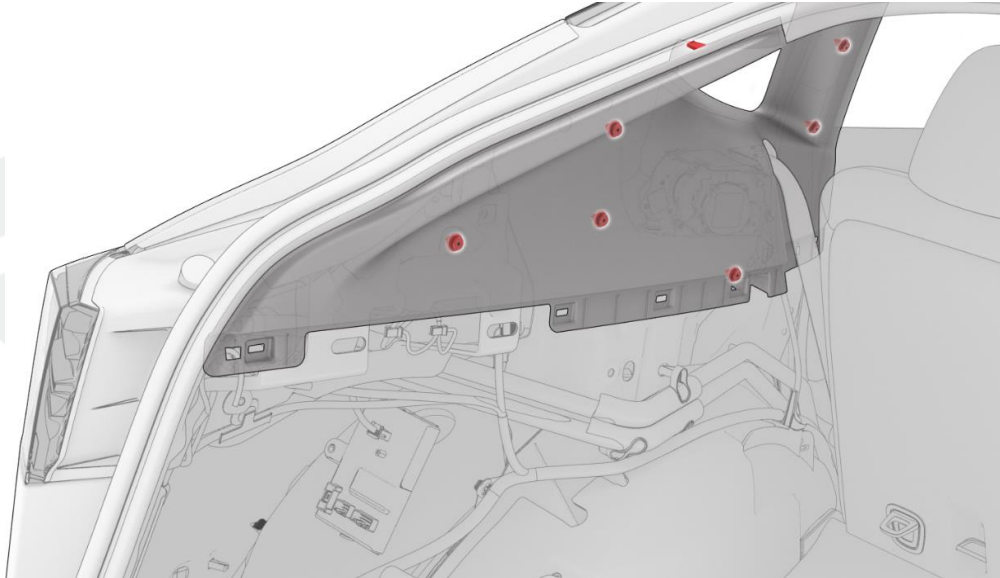

Figure 1
2. Release the clips (x6) and tab (x1) that attach the LH upper C-Pillar trim to the vehicle (Figure 1), and then set the trim aside.